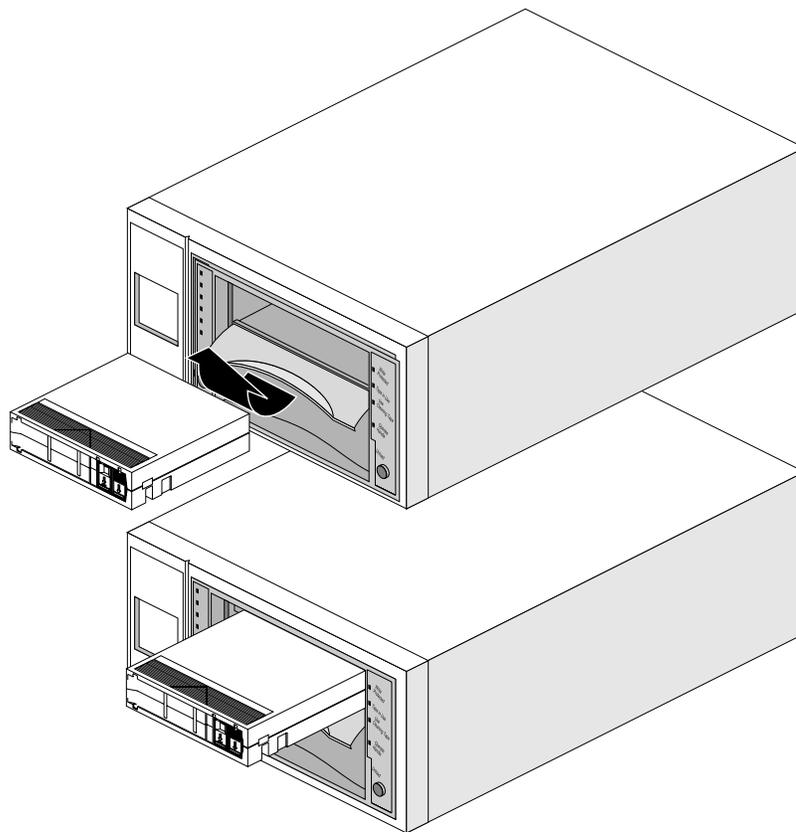

Figure 5-3 Loading a Tape Cartridge in the DLT Drive
1. When the DLT drive beeps and the green Operate Handle LED is on steadily, lift up the cartridge load/unload handle, as shown in Figure 5-3.